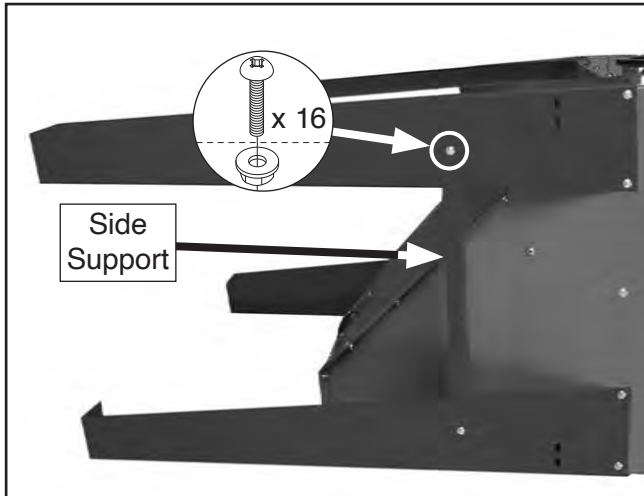

Figure 7. Leg installation.
2. Using #2 Phillips screwdriver, fasten (4) legs to underside of cabinet with (16) M6-1 x 12 cabinet screws and flange nuts (see **Figure 7**).
3. Attach (2) side supports (see **Figure 7**) to left and right set of legs with (4) M6-1 x 12 cabinet screws and flange nuts.